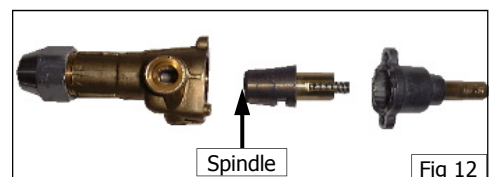

Fig 12
- g. Apply a suitable high temperature gas cock grease or lubricant such as ROCOL - A.S.P (Anti scuffing paste) / Dry Moly Paste to the outside of the spindle. (Refer to Fig 12).